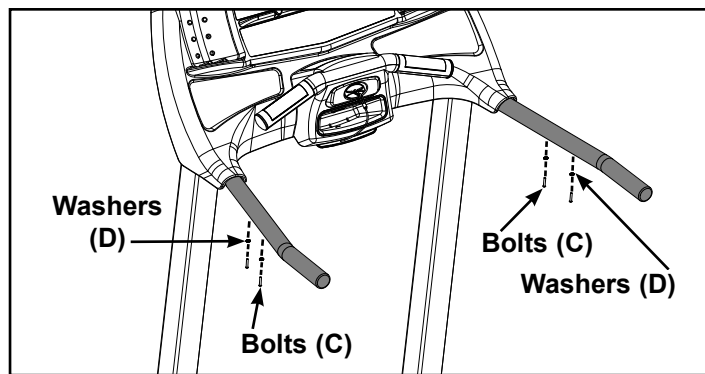

Figure 42
- D. Using the 1/4" Hex key (E), install and tighten both bolts (C) and washers (D) per handrail. See Figure 42.